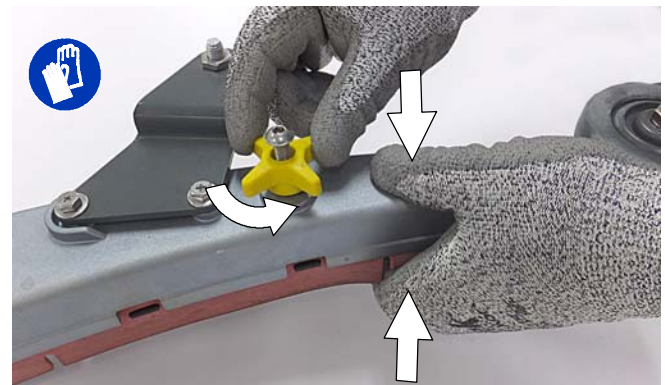

FIG. 137
2. Fully loosen the two outside knobs on squeegee assembly. This will separate the spring loaded blade retainer from squeegee frame (Figure 137). To loosen the knobs quickly, squeeze the blade retainer and squeegee frame together.